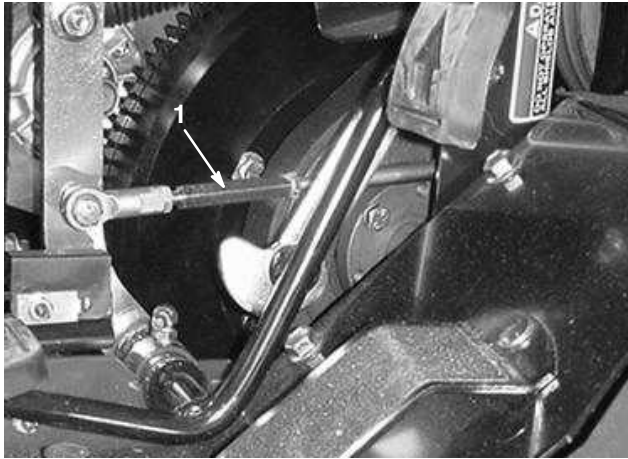

Figure 57
2. Loosen the jam nuts on each end of the traction rod barrel (Fig. 57).